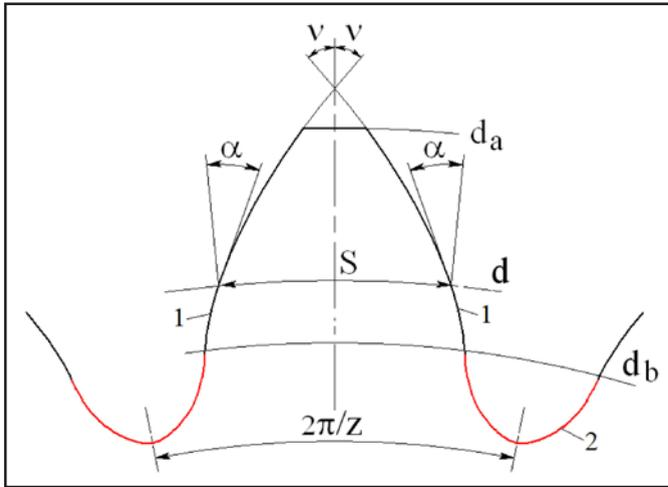

Figure 3 Gear tooth profile construction.
This method describes a symmetric gear tooth (Fig. 3) as formed by two involute flanks (1) of the base circle diameter  $d_b$ , an arc distance between them represented by the tooth thickness  $S$  at the reference diameter  $d$ , the tooth tip diameter  $d_a$  and the root fillet (2).